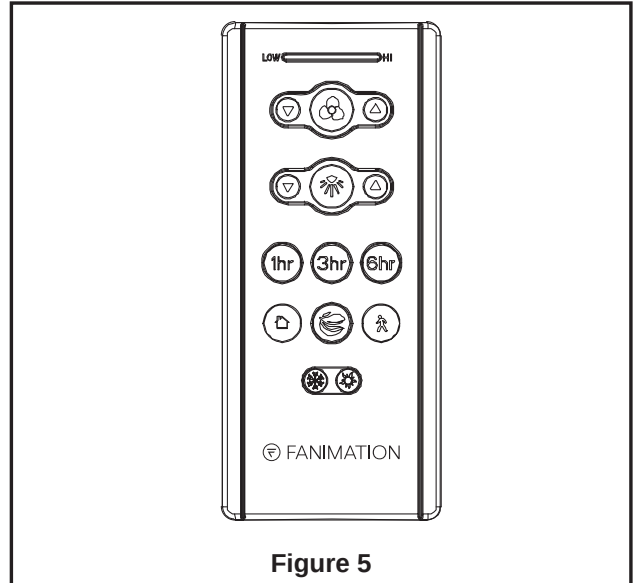

Figure 5
- ☐ 4. After connections have been made, taking care not to pinch the wires, put the white and green leads to one side and the black leads towards the other side. The wires should be spread apart with the grounded conductor and the equipment-grounding conductor on one side of the outlet box and the ungrounded conductor on the other side. (Figure 5)
5. Remote functions: (Figure 5)